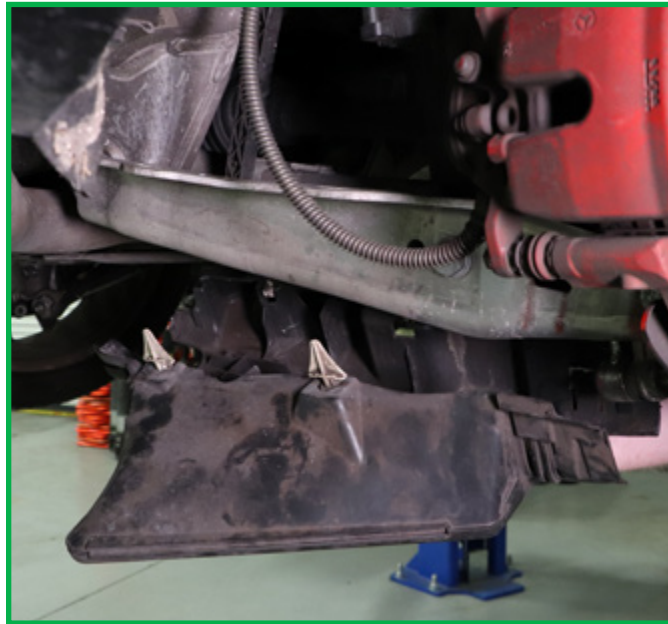

FIGURE 41
11. Install the control arm cover. (Figure 41)